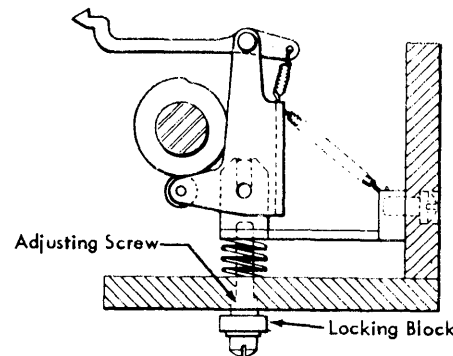

Figure 4-25. Forward Aligner
- a. Loosen the two screws of the locking block very slightly (Figure 4-25). The locking block serves as a support for the forward aligner adjusting screw and adjustment of the forward aligner cannot be made accurately if the block screws are loosened too much.